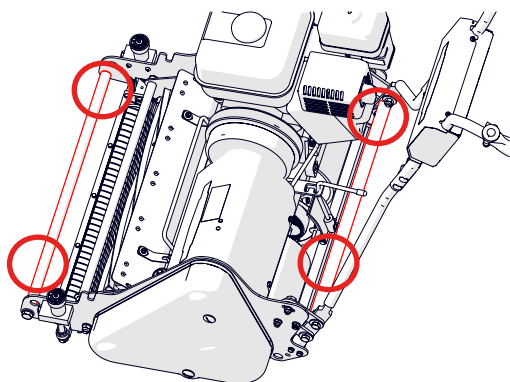

Fig.24. Anchor points for transport.
- Anchor the machine to the floor/pallet using suitably rated tie-down straps. Anchor around the front and rear tie-bars (highlighted red in Fig. 24).